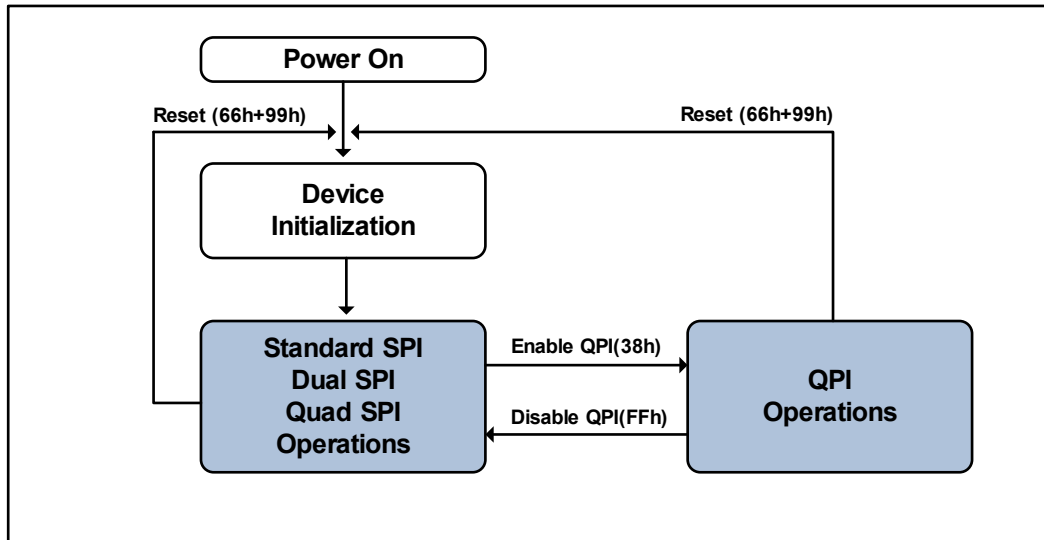

Figure 3. DS25Q4AA Serial Flash Memory Operation Diagram
The DS25Q4AA supports Quad Peripheral Interface (QPI) operations only when the device is switched from Standard/Dual/Quad SPI mode to QPI mode using the “Enter QPI (38h)” instruction. The typical SPI protocol requires that the byte-long instruction code being shifted into the device only via DI pin in eight serial clocks. The QPI mode utilizes all four IO pins to input the instruction code, thus only two serial clocks are required. This can significantly reduce the SPI instruction overhead and improve system performance in an XIP environment. Standard/Dual/Quad SPI mode and QPI mode are exclusive. Only one mode can be active at any given time. “Enter QPI (38h)” and “Exit QPI (FFh)” instructions are used to switch between these two modes. Upon power-up or after a software reset using “Reset (99h)” instruction, the default state of the device is Standard/Dual/Quad SPI mode. To enable QPI mode, the non-volatile Quad Enable bit (QE) in Status Register-2 is required to be set. When using QPI instructions, the DI and DO pins become bidirectional IO0 and IO1, and the /WP and /HOLD pins become IO2 and IO3 respectively. See Figure 3 for the device operation modes.